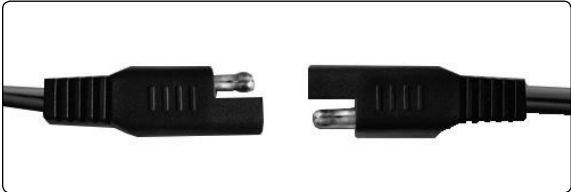

fig.1
- 4.1.2. Check polarity of battery posts. A positive (pos, p, +) battery post may have a larger diameter than a negative (neg, n, -) post. Connect the battery lead plastic plug to the charger / maintainer plastic plug, see figure 1.